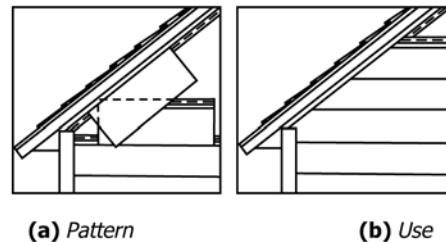

FIG. 18 Using a Pattern to Match Panel End Cuts to Gable Angle
9.3.8.1 To ensure that the angle of the ends of the siding panels match the angle of the gable, make a pattern from two pieces of scrap siding. Hold one piece on the lock of the last installed panel, place the other piece against the gable and mark the horizontal piece. (See Fig. 18(a).) Cut along the mark and use this piece as a pattern for the remaining siding panels on that side. Make another pattern for the other end of the panels. (See Fig. 18(b).)